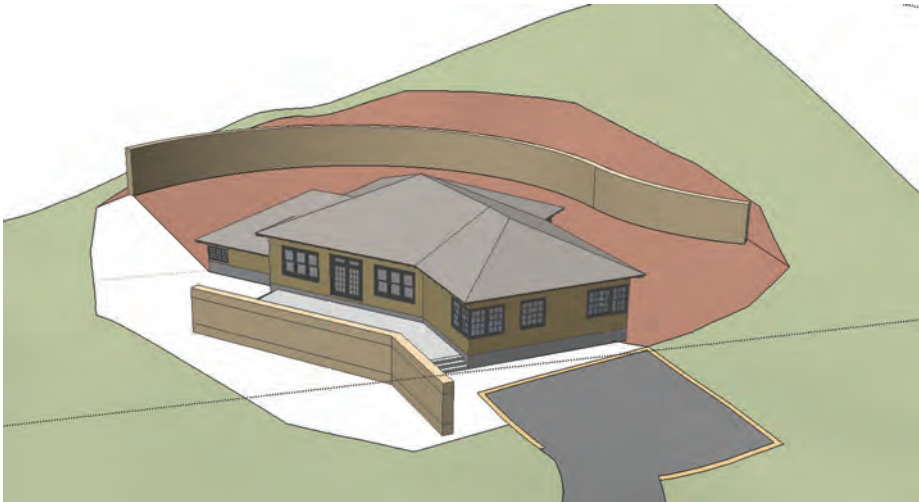

Fig. 15-27: The next section is graded using From Contours.
5. The next section is graded using From Contours (Fig. 15-27).